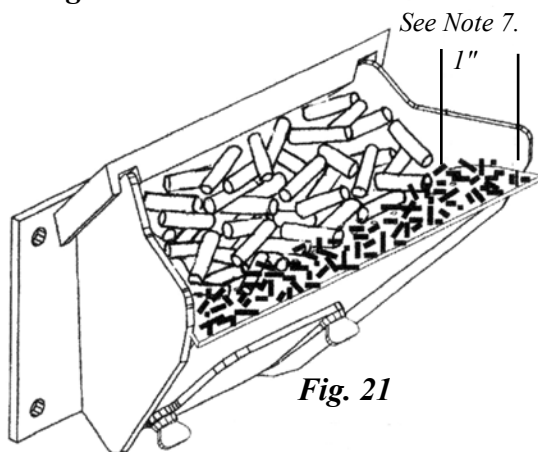

Fig. 21
7. Setting the feed adjuster # for maximum burn: With the unit burning in "AUTO", turn to "Stove Mode" and put the fan on "H". Set the Temperature Dial to #7. Allow the unit to burn for about 30 minutes and check ash on front of burn pot. Fig. 21. If the ash line is larger than 1", turn the feed adjuster from #3 to #4. Allow another 30 minutes of burn time and check again. If, at #6 setting, a 1" or less ash bed is not obtainable, it is not a problem. The 1" ash bed is only a maximum burn rate and at most normal settings the ash bed will be larger.